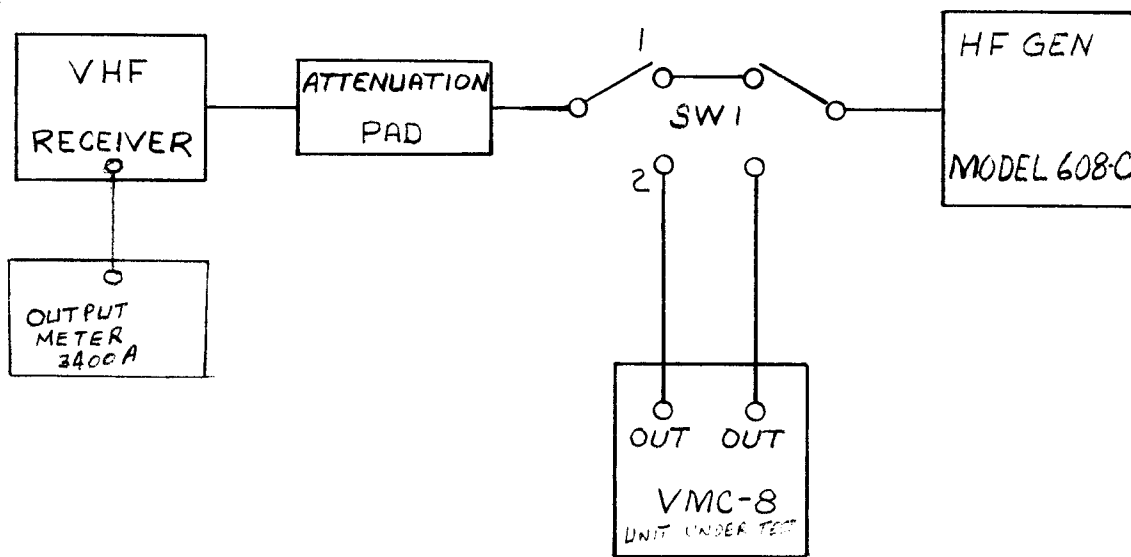

FIGURE 6
1. Connect the test equipment as shown in figure 6.